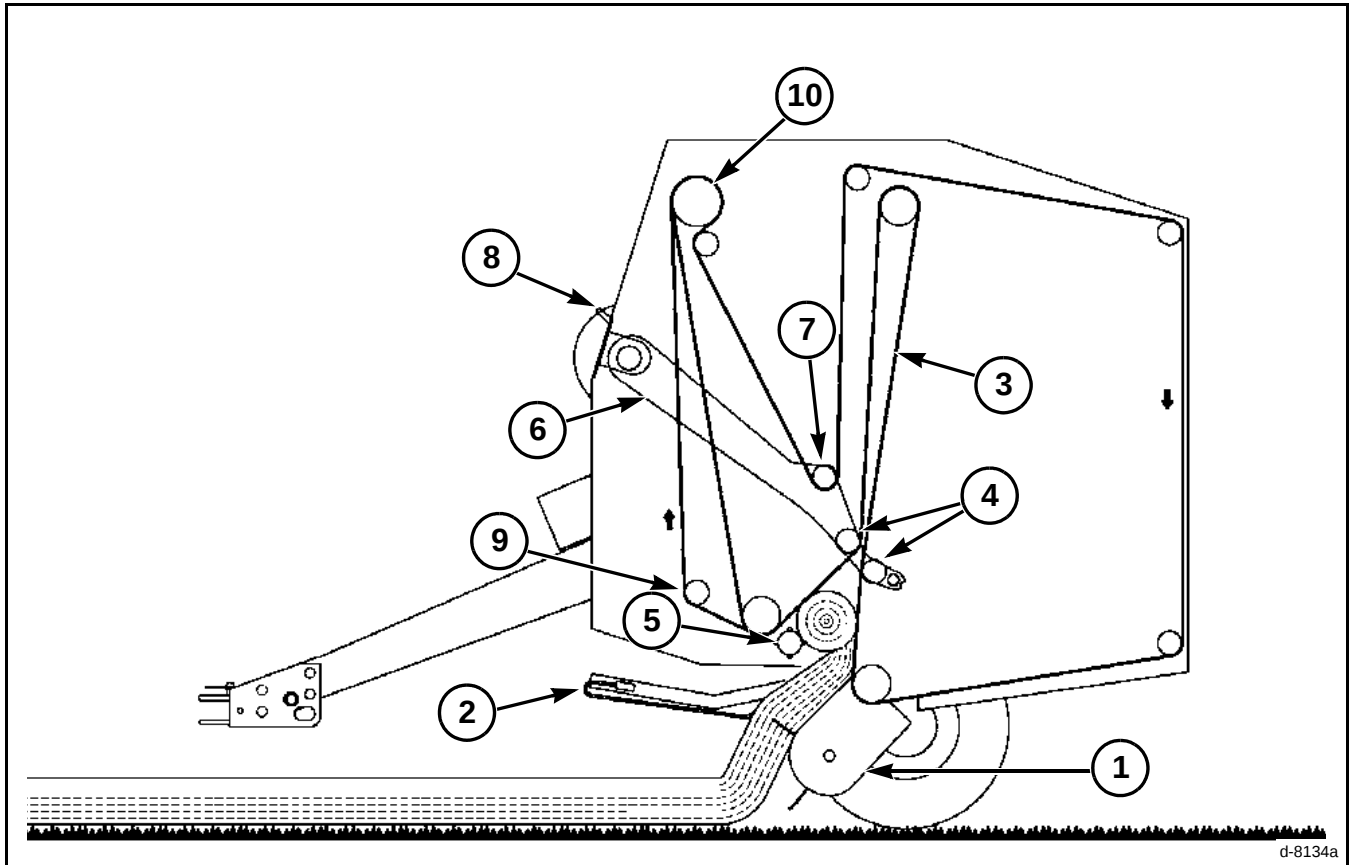

FIG. 20
FIG. 20: The illustration shows the windrowed crop being picked up. The crop moves across the pickup assembly (1) into the bottom of the open throat bale chamber. The windguard (2) holds the crop against the pickup assembly. In the bale chamber the crop contacts the rough top surface of the forming belts (3), which are moving upward. The forming belts carry the crop to the top of the starting chamber which is formed by the bale density rolls (4). The downward motion of the forming belts turns the crop downward against the starting roll (5). The starting roll folds the crop rearward into the crop coming in. The core is started and begins to roll.